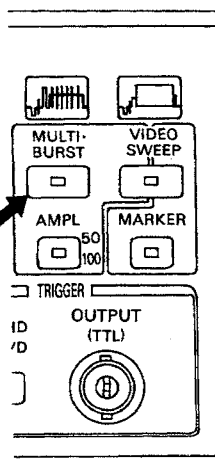

Figure 4.8
4.2.7 Setting Rightmost Burst of Multiburst Pattern (See Figure 4.8 and 4.9)